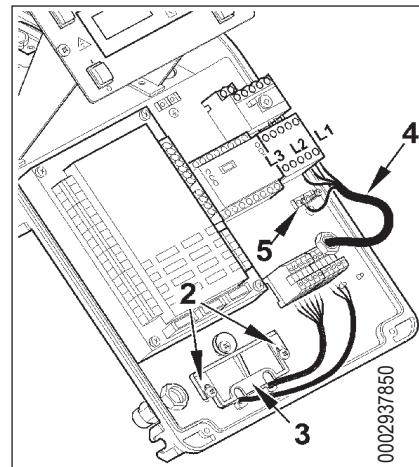

Figure 2
- Loosen the screws (2) and after removing the cable clamp plate (3), make the auxiliaries power cable and thermostatic line cable come through the hole. (fig. 2). Connect the power supply cables (4) to the contactor, connect the cable to ground (5) and close the cable holder.